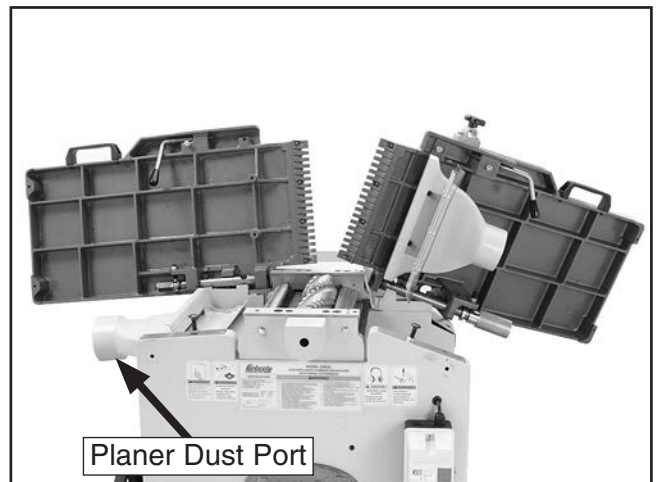

Figure 27. Planer dust port in "down" position.
- Reverse **Steps 2-9** in the previous subsection. Pull up on the table lock knobs to lower the table. Make sure you lower the planer dust port to the "down" position (as shown in **Figure 27**).